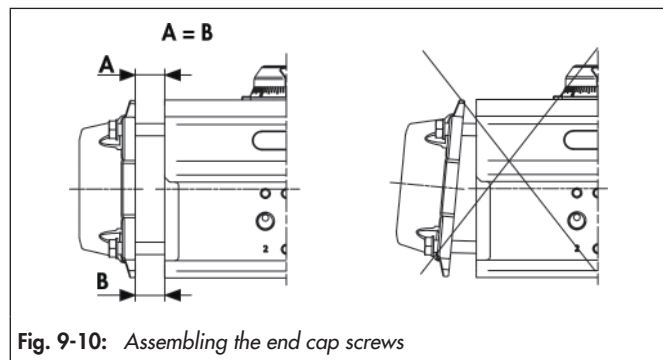

Fig. 9-10: Assembling the end cap screws
- ⇒ Assemble the end cap and maintain a constant distance ($A = B$) between the rotary actuator housing and the housing interface, see Fig. 9-10.